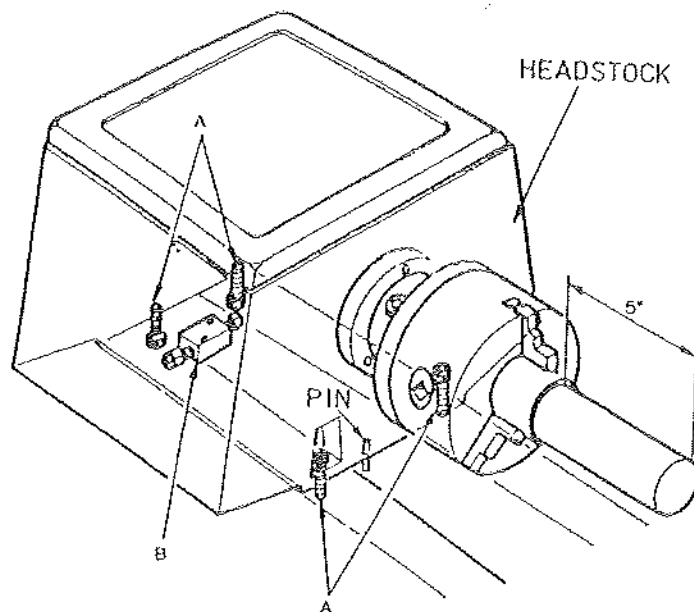

Fig. 24
7. Adjust two screw nuts (B, Fig. 24) located on the endgear side of the headstock. Loosen one and tighten the other. Make another cut. Keep adjusting screw nuts after each cut until the bar stock measurements are the same. Tighten all headstock screws.